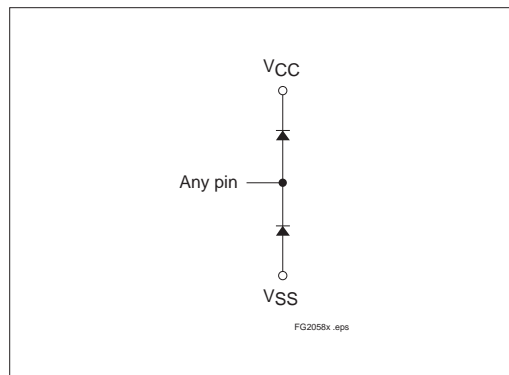

Figure 4. Internal Protection Diodes
2. Internal protection diodes are in place on every pin relative to  $V_{CC}$  and  $V_{SS}$ . See Figure 4.